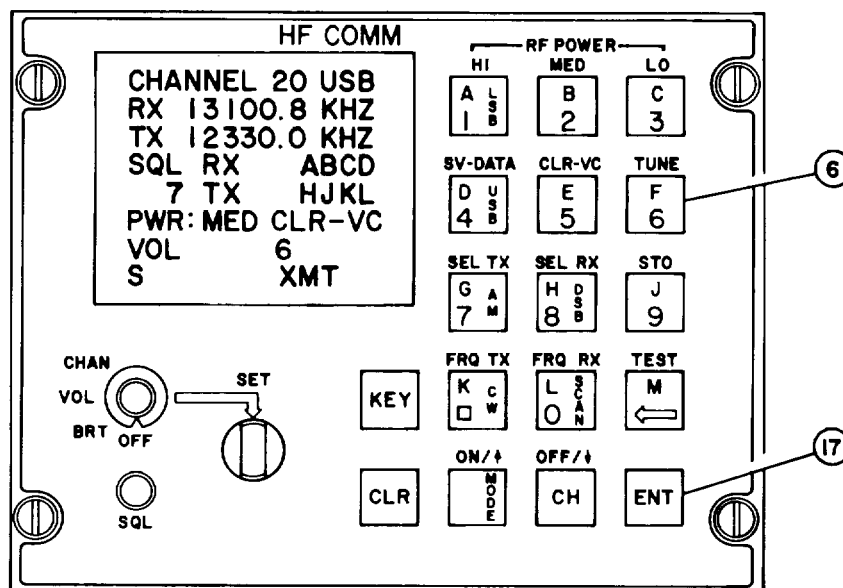

Figure 2-26. C-1 1245/U Tune Mode Function, Controls
- g. Tune Mode.** Refer to figure 2-26. The tune mode tunes only the channel currently displayed by pressing the TUNE pushbutton (6) and the ENT pushbutton (17). When the TUNE pushbutton is pressed, TUNE appears on the display in field 11 (figure 2-2). When the ENT pushbutton (17) is pressed, TUNING appears on the display in field 11 (figure 2-2). It remains until tuning is complete. The tune function also performs a store operation.